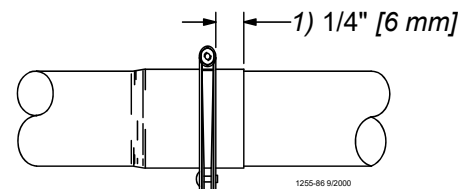

Figure 26. Clamp Installation
Continue down the entire length of the feeder line so that every joint is secured with a standard Clamp or Clamp/Anti-Roost Bracket. **Figure 26.** shows the proper clamp location on the tube joint. *Do not tighten the clamp at this time.*
- make sure the clamps are located, as shown in **Figure 26**.